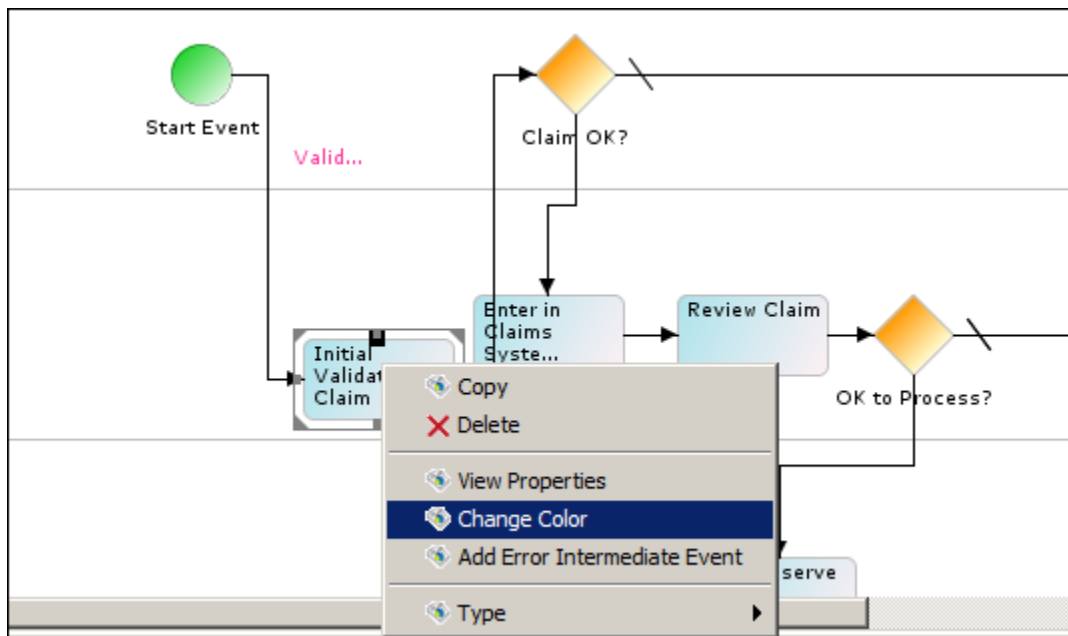

Figure 43: Change Activity Color
- Right-click the desired activity element and select **Change Color** option (see Figure 43).